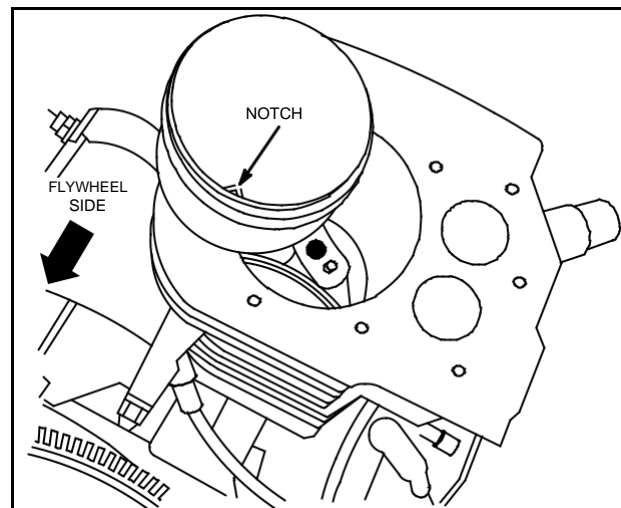

Fig. 14
**NOTE: Briggs & Stratton** opposed twin cylinder engines use pistons with offset piston pins. The notch on the piston must face the flywheel side of engine, Fig. 14.